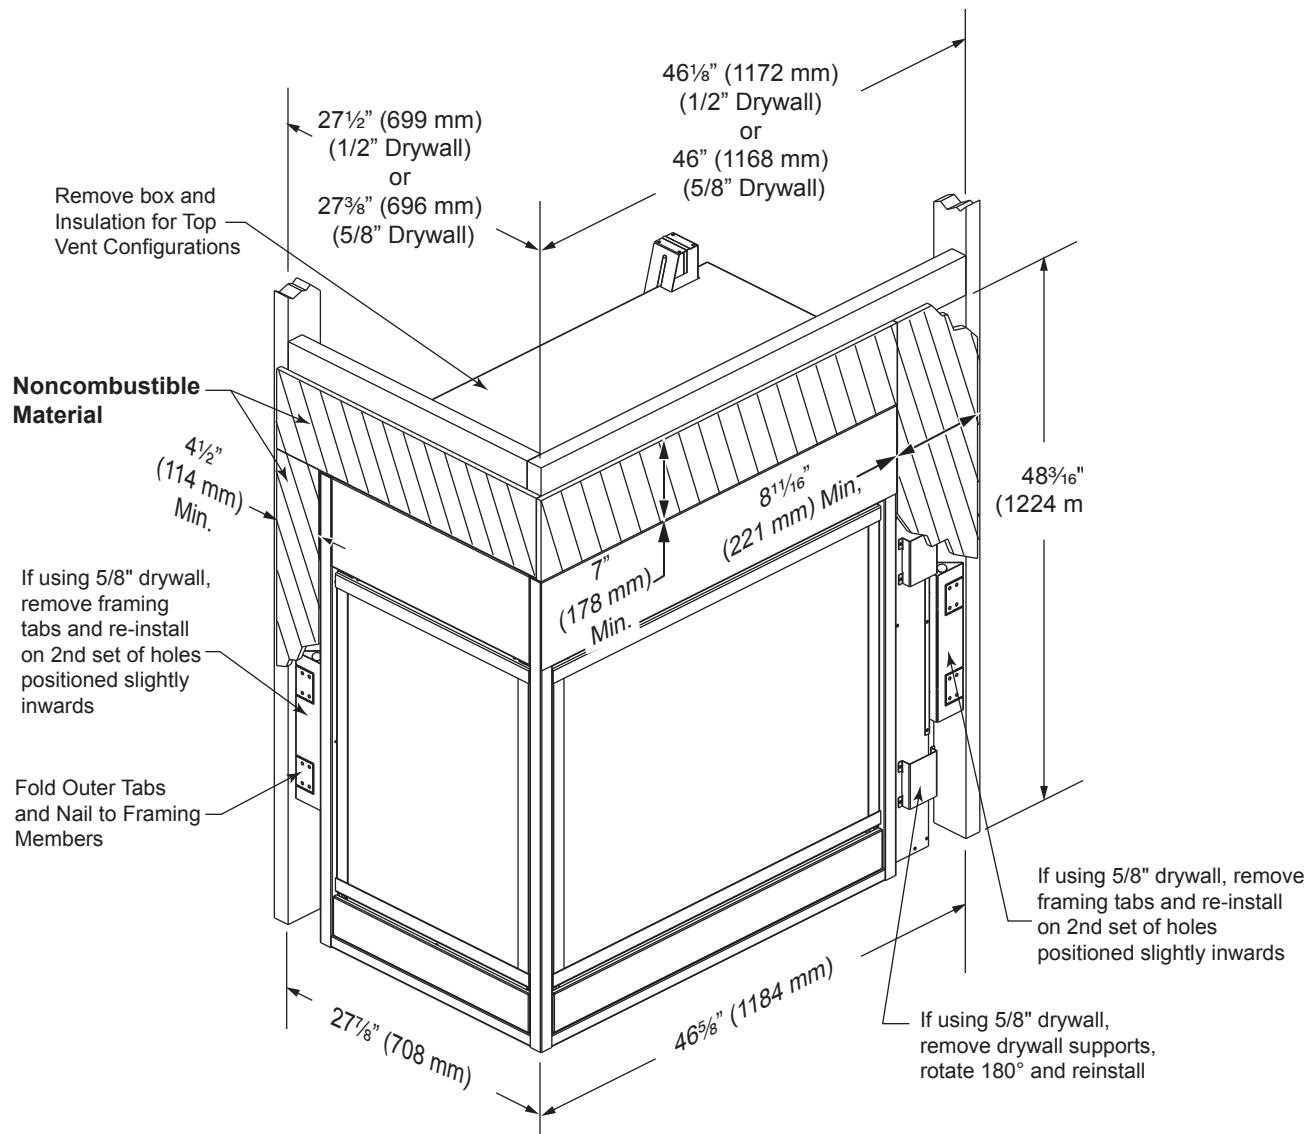

Figure 6 -
The fireplace must be secured to the floor and/or to framing studs as shown in *Figure 6*. Use four (4) wood screws or masonry/ concrete screws to secure fireplace to the floor. Use four (4) screws to attach fireplace to framing. The side brackets or nailing flanges are designed to accommodate two wall boards thicknesses, 1/2" or 5/8".